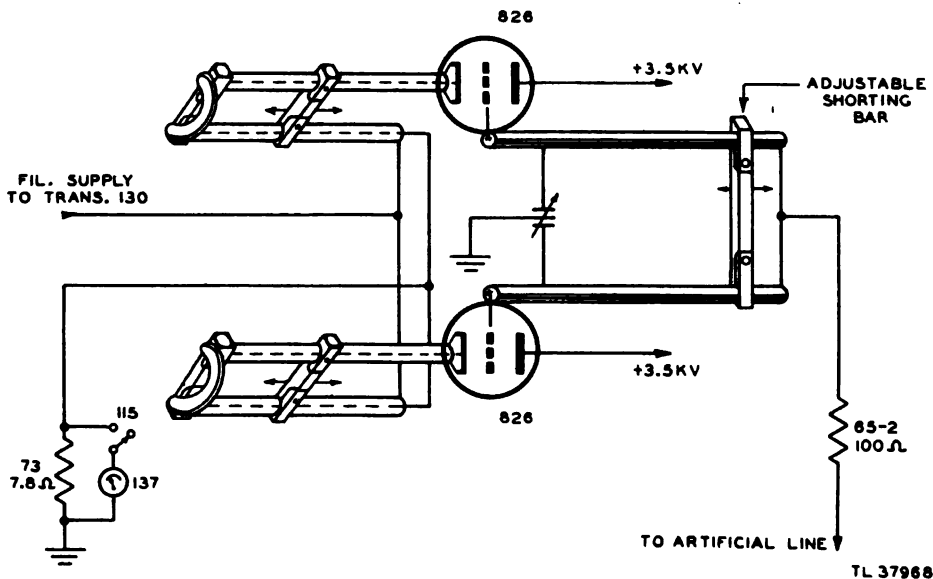

Figure 15. Grid and filament lines, r-f oscillator section.
d. TUNING. The tuning of the lines in the grid and filament circuits determines the frequency of oscillation (fig. 15).